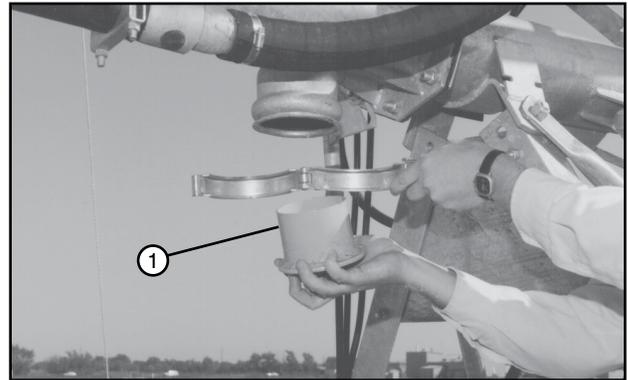

Figure 53-1 1. Sand Trap
3. Remove and clean the sand trap at the last regular drive unit. See figure 53-1.